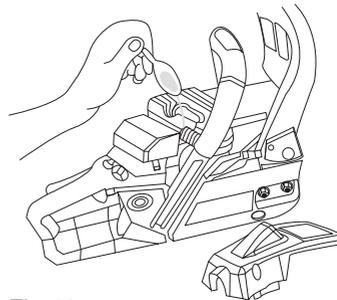

Fig.42
- Pour 1 teaspoon of clean 2-cycle oil into the combustion chamber (Fig. 42). Pull the starter rope slowly several times to coat the internal components.